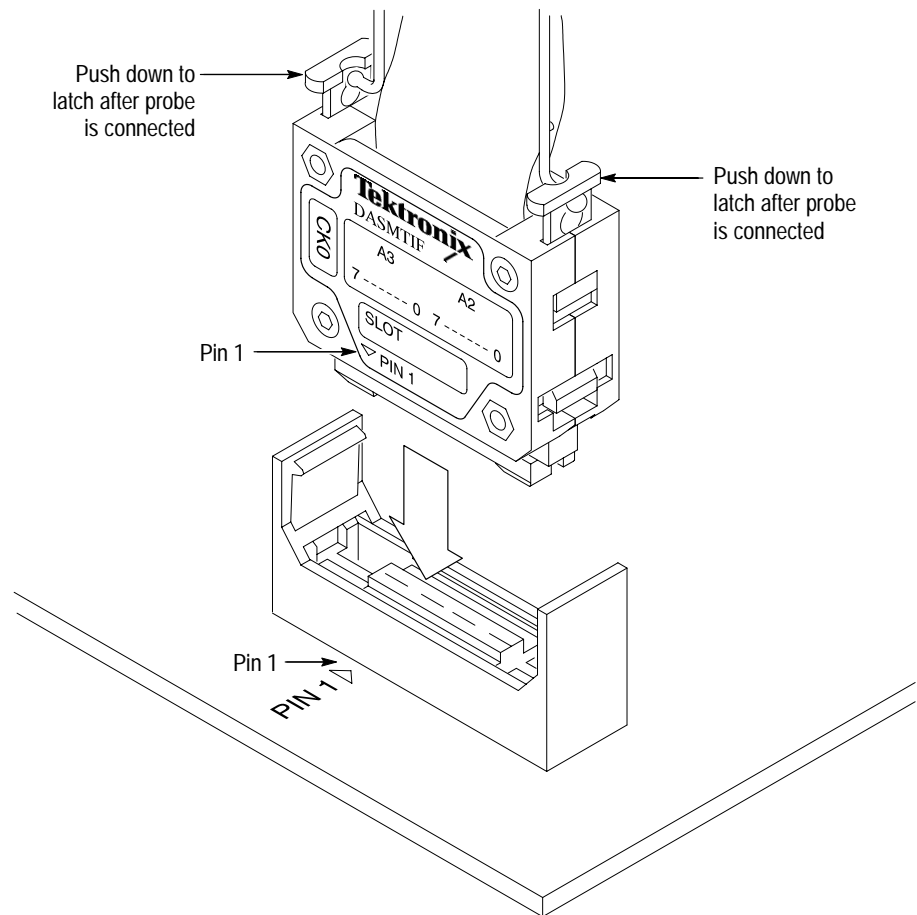

Figure 2: Connecting to a surface-mounted or straddle-mounted connector
2. Position the probe tip perpendicular to the mating connector and gently connect the probe as shown in Figure 2.